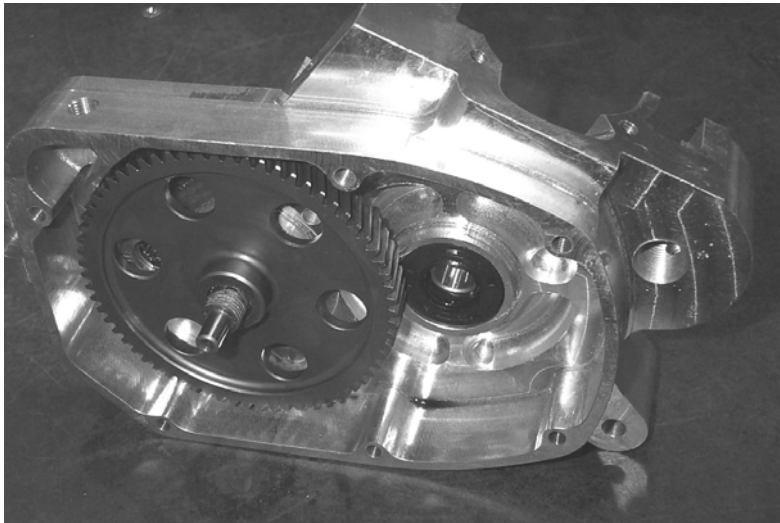

Figure 25
9. Insert the transmission input shaft and install large drive gear as shown in figures 25 & 26.